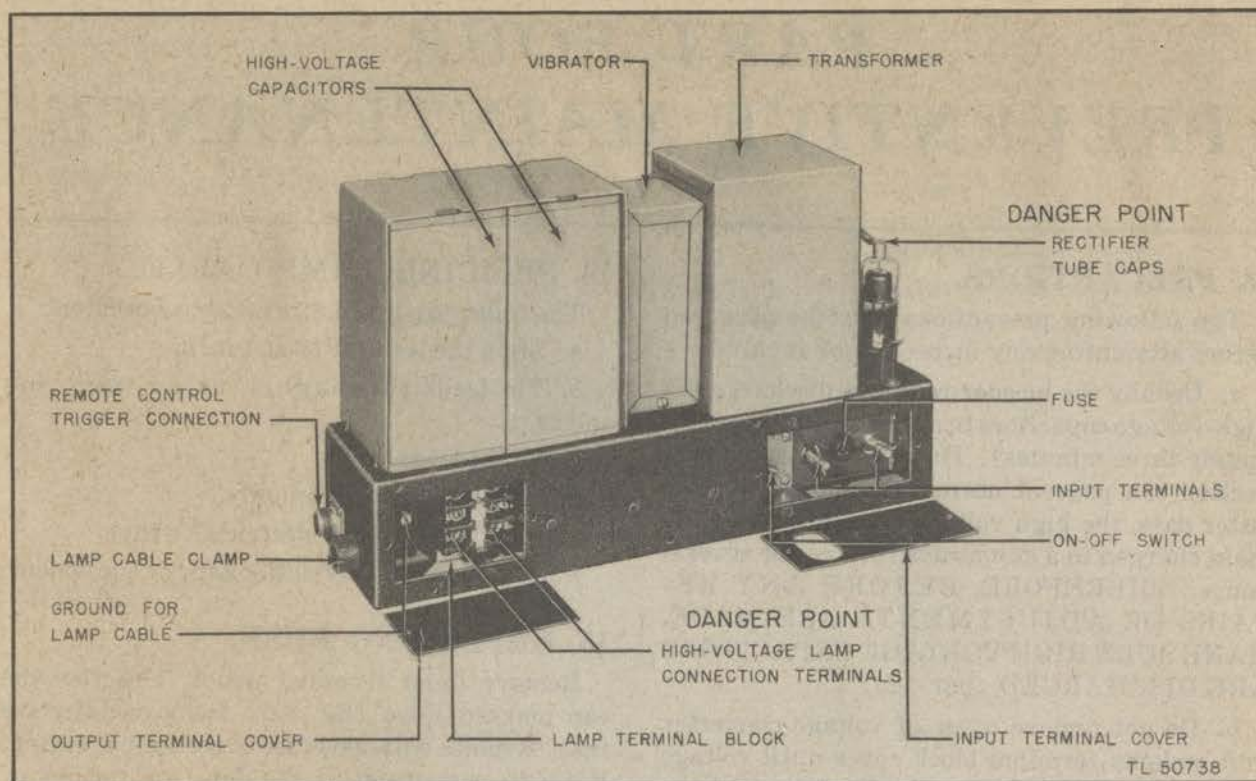
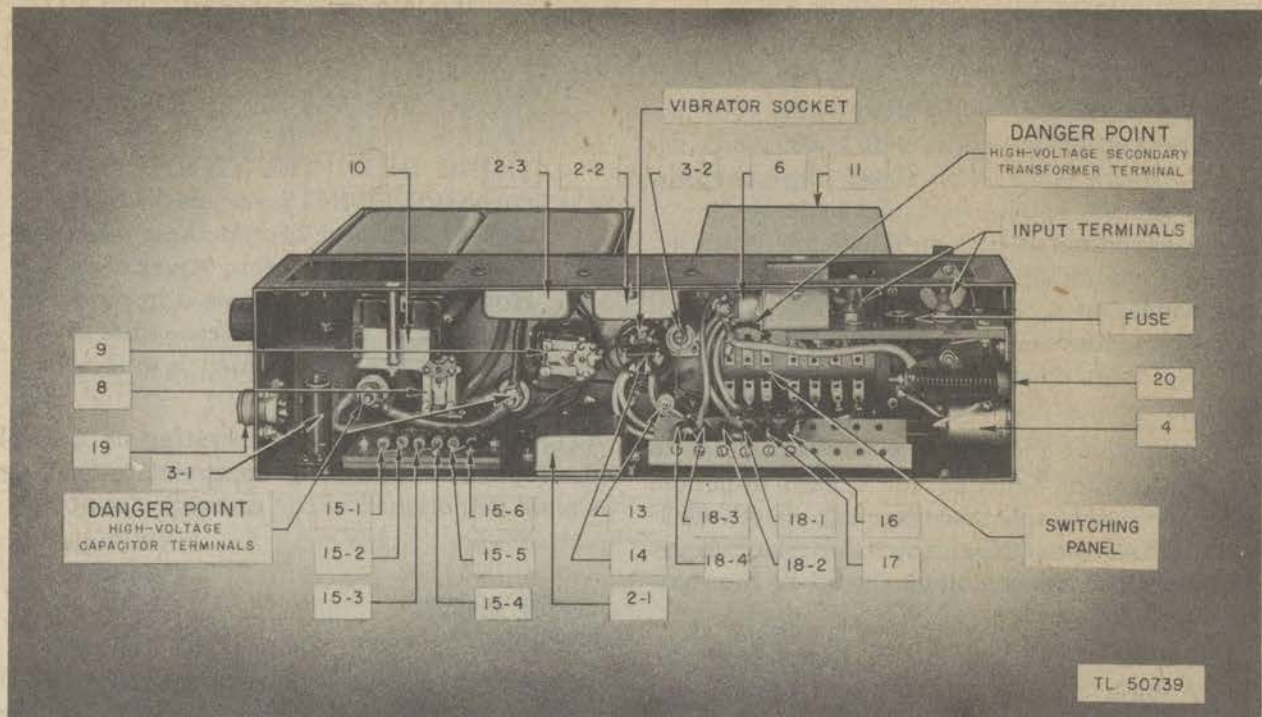

Figure 12. Voltage Converter PP-49/VVX-1 or PP-50/VVX-1X, cover removed.
Figure 20. Voltage Converter PP-49/VVX-1, inside view of chassis.
Remove input terminal panel. Unscrew the cap marked Fuse (fig. 12). Remove defective fuse. Replace with new fuse of the proper rating. Refer to paragraph 9j (1) for fuse ratings of Voltage Converter PP-49/VVX-1 and to paragraph 9j (2) for Voltage Converter PP-50/VVX-1X.
16. REPLACING VIBRATOR (fig. 12).
17. REPLACING TUBES (fig. 12).
CAUTION: Discharge high-voltage capacitors before attempting any inspection or repairs (par. 12). Danger points are marked on figures 12, 20, and 21. At these points, a shock could mean serious injury or death. However, use care in servicing any part of the equipment since there are other points at which a mild shock may be received.
- If the visual identification equipment does not operate, examine the fuse. If fuse is blown, first replace vibrator (fig. 12) as explained in paragraph 16. Next, replace fuse as explained in paragraph 15.
a. Location of Parts. Two high-voltage capacitors (5-1) and (5-2), the transformer (11), the vibrator (1), and two 12 X 3 rectifier tubes (12-1) and (12-2) are mounted on top of the chassis (fig. 12).
c. Step by step Instructions. (1) **CHECKING EQUIPMENT.** Be sure the equipment is in operating condition. Make any repairs to put the equipment in perfect operating condition before proceeding.
(2) **DISASSEMBLY.** Remove the input terminal cover and the output terminal cover of the voltage converter by unscrewing the two screws holding each in place (fig. 12). Turn the voltage converter upside down, and remove the bottom cover by unscrewing the six retaining screws holding it in place. This exposes the bottom of the chassis.
(4) MASKING. Cover with masking tape those parts of the following items where a coating of varnish would prevent electrical continuity: relays No. 8 and No. 9 (figs. 20 and 21), input terminals (fig. 12), lamp terminals (fig. 12), and input switching terminals (figs. 8, 9, 20, 21).
(5) DRYING. Dry the voltage converter for two hours in an oven at 160° F. Watch for indications of melted wax, and, if necessary, lower the oven temperature. Add one hour to the drying time for each 10° F. that the temperature has been lowered.
(6) VARNISHING. (a) Remove chassis from oven, and immediately apply the coating material (Dulac No. 86 + thinner) in a wet spray coat to all hook-up wire, circuit elements, and fabric insulated elements. Spray the exposed parts from all directions and from all angles to make sure that each item or element is *entirely* covered.
(7) RECHECKING. Replace the bottom cover on the voltage converter. Recheck the operating condition of the equipment. If the equipment is in good operating condition, then replace input and output terminal covers.
(8) MARKING. Mark MFP and date of treatment.
(9) REFERENCE. For a full description of the varnish spray method of moistureproofing and fungiproofing, refer to TB Sig 13. TB Sig 13 also contains instructions regarding the preparation and use of the materials required.
a. Danger points are labeled on figures 12, 20, and 21. At these points a shock could mean *serious injury or death*. However, care must be used in servicing any parts of the equipment since there are other points at which a mild shock could be received.
(1) Check fuse.
(2) Check voltage on input terminals of voltage converter unit.
(3) Check setting of switching plate.